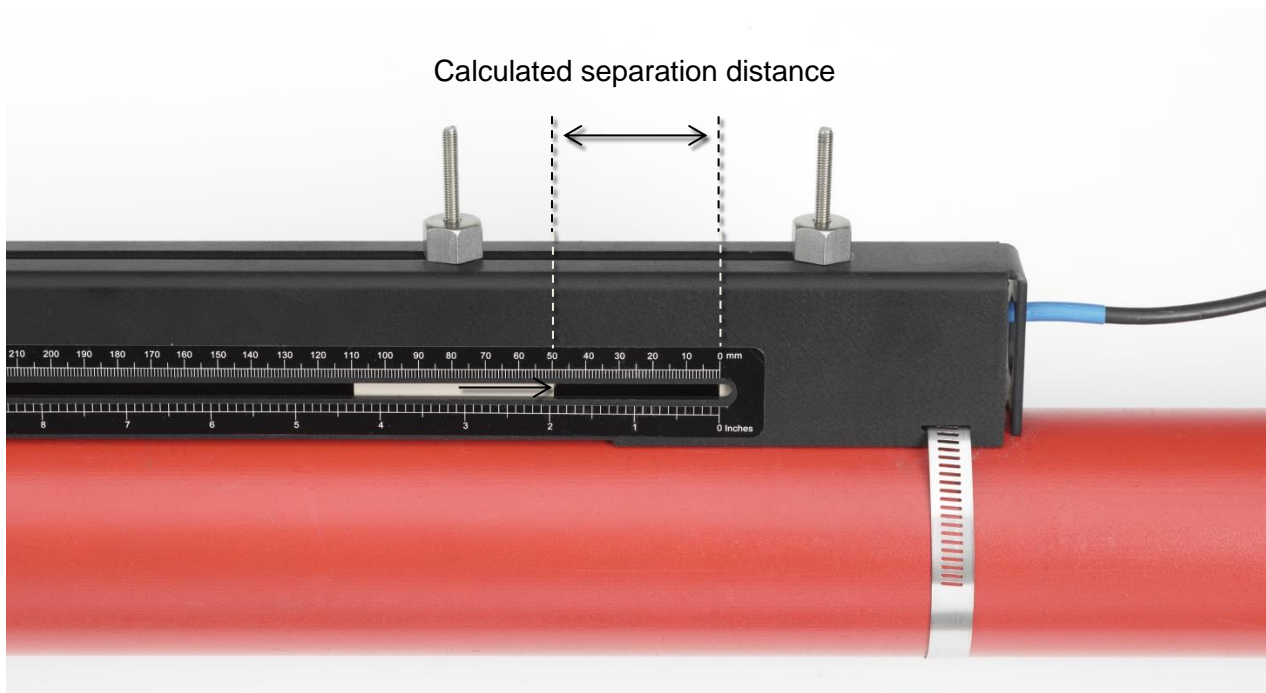

Figure 16 Setting transducer separation
9. Position the upstream transducer so that the inner face of the transducer is set to the required separation distance on the ruler, as shown in Figure 16.